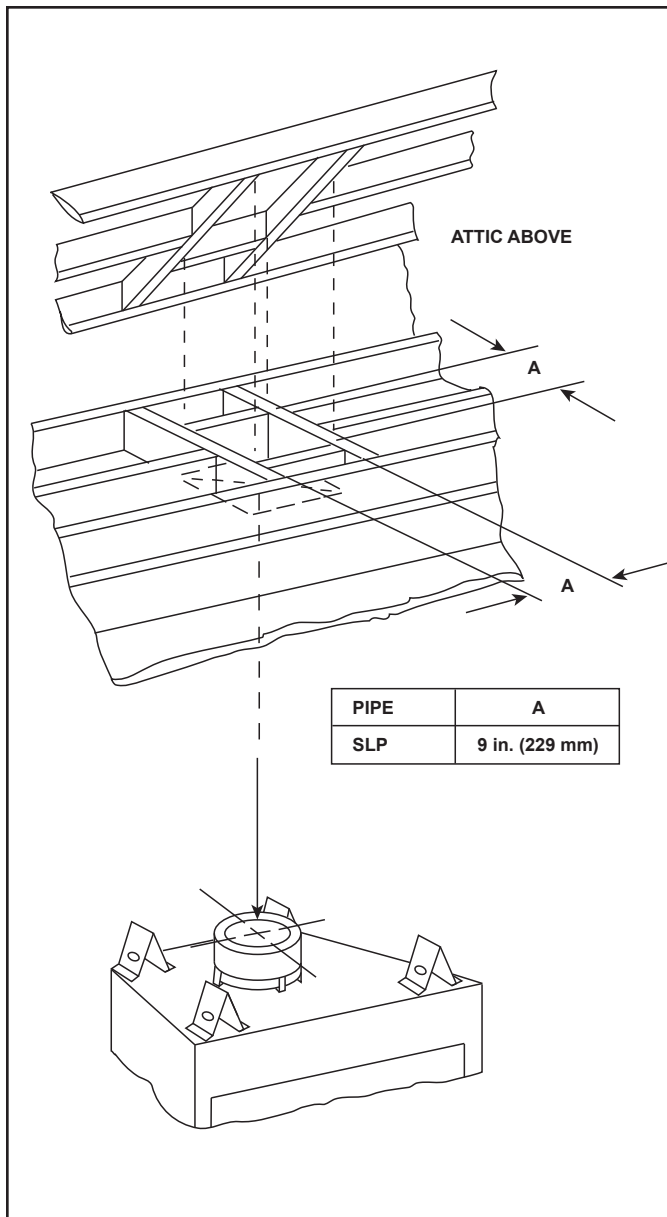

Figure 8.23 Installing Ceiling Firestop
- **SLP pipe only** - Frame opening 9 in. x 9 in. (229 mm x 229 mm) whenever the vent penetrates a ceiling/floor (see Figure 8.23).